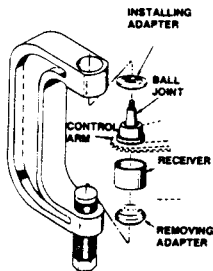

FIGURE 1
2. Place installation adapter on top of the ball joint and tighten forcing screw until ball joint is removed - *Figure 1*.